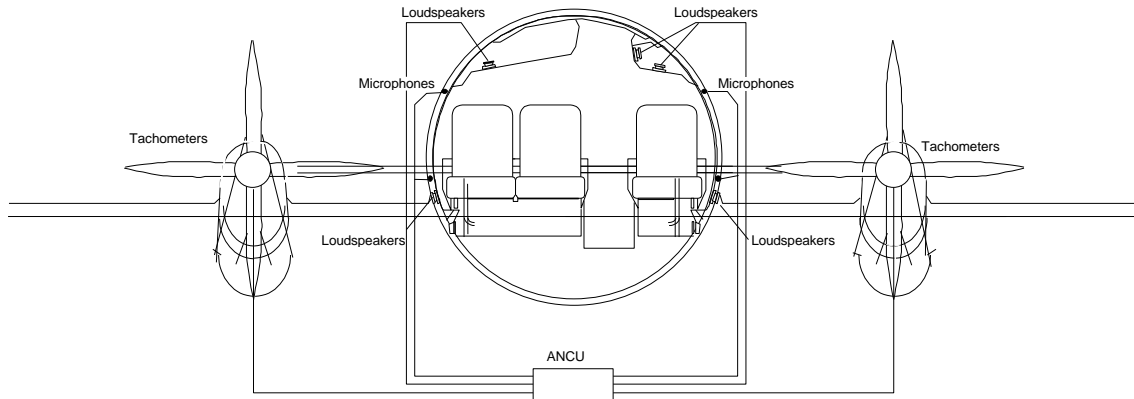

Figure 1.10 - System Schematic
- (1) The Active Noise & Vibration Control (ANVC) system reduces the level of the periodic noise and vibration in the passenger cabin caused by the aircraft engines or propellers. This is done by manufacturing another (secondary) field in the cabin, which is in anti-phase with the primary (original) field. The primary and secondary fields come together and cancel each other out to produce lower noise levels.
- (2) The ANVC system consists of the Active Noise Control Unit (ANCU), Sensors and Actuators placed around the aircraft cabin, and Power Amplifiers to operate the actuators.
- (3) The fundamental frequencies of the noise are measured by the ANCU. The measurement inputs are taken from either the engine tachometers, or wild bus AC alternator signals which provide frequency data. The ANCU processes this information (together with the noise levels measured by the Sensors) and sends out noise control signals to the Actuators via the Power Amplifiers.
- (4) Figure 1.10 shows a typical installation for a turbo-prop aircraft system using Loudspeakers.
- (5) The ANCU performs a Self-Test whenever power is applied or after it is reset. If all the tests are passed, the ANCU is initialised from configuration data, calibration data and system status data stored in non-volatile memory.
- (6) Following successful initialisation, the ANCU will start Active Control when at least one frequency input is in the range of control as defined in the configuration data (normally set as all flight RPM but on some aircraft taxi RPM is also in range).